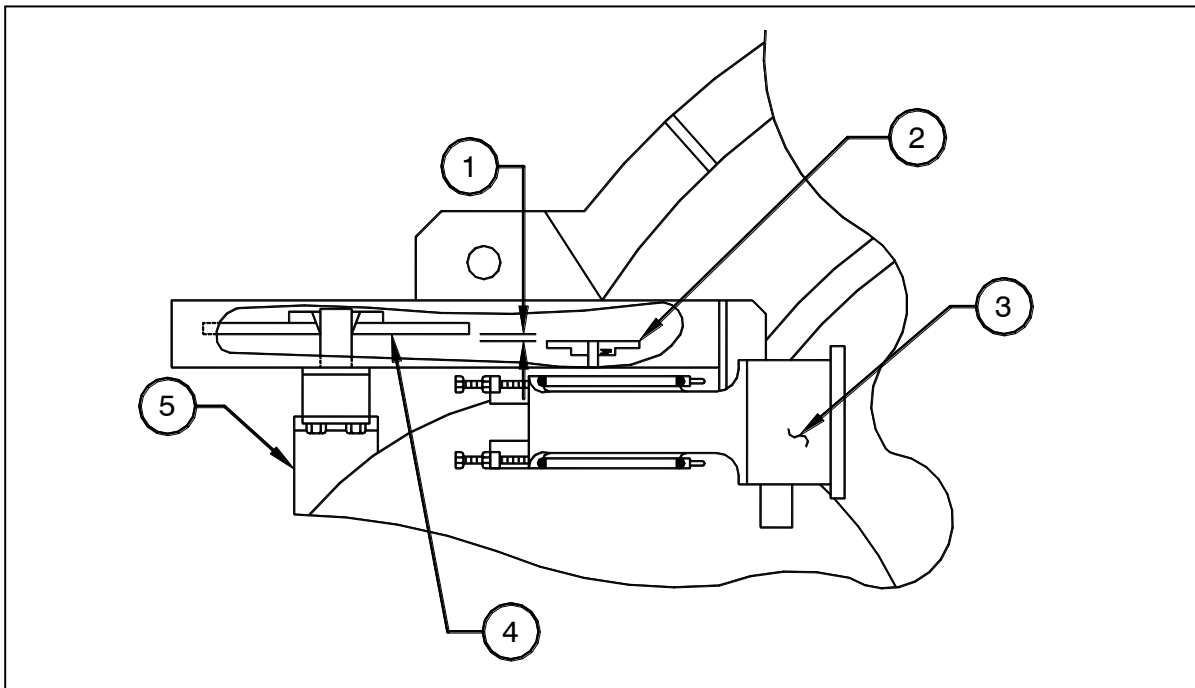

Figure 4.5a
Because the worm shaft and its driven sprocket (4) will be displaced inward under load, check that the driven sprocket (4) is offset 1/8" inward from true alignment with the motor's drive sprocket, as shown in Figure 4.5a. Adjust driven sprocket if out of alignment, referring to the Motor Drive Assembly drawing. This initial setting, then, will allow for near true alignment under normal load.